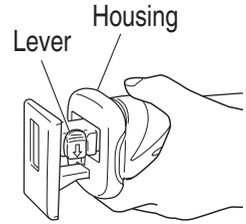

Fig. 19
- Be careful not to let sawdust, earth, moisture, etc., enter the inside of the machine through the plunger section during operation. If sawdust and the like accumulate in the plunger section, always clean it before use (refer to Fig. 19).